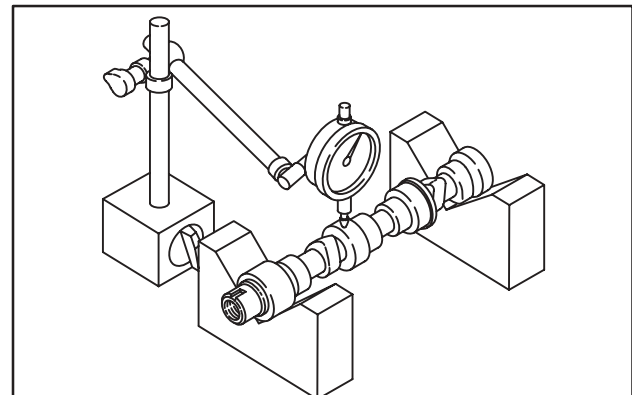

Fig. 13 – Checking Run-out
3. Measure camshaft run-out, Fig. 13.